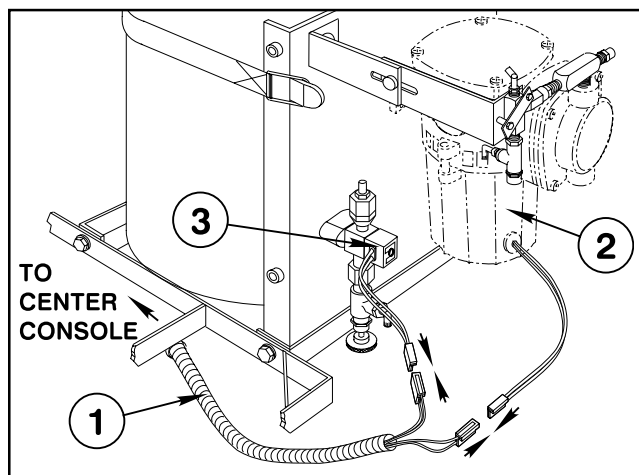

Fig. 4
6. Locate Wiring Harness and make the connections to the Compressor and Solenoid located at the Foam Tank/Compressor Assembly. NOTE: BOTH PLUG CONNECTIONS ARE THE SAME. (Fig. 4)